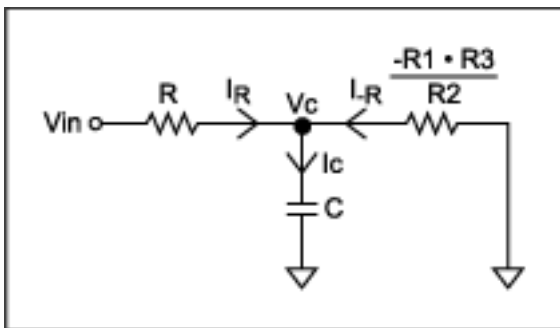

Figure 3. This circuit results from a further simplification of Figure 2b.
After simplification, the circuit (**Figure 3**) reveals a "T" configuration, in which V_{in} drives the capacitor through a positive resistor (R), and ground drives the capacitor through a negative resistor ($-R_1 \times R_3/R_2$).